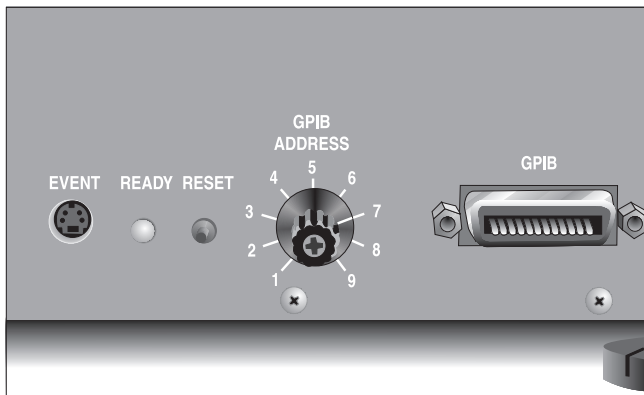

Figure 2.8
5. Select an address from 1 to 9. Then use the address selector dial on the TGA connector panel to set the desired address. Figure 2.8 on the next page shows an instrument address of 7.